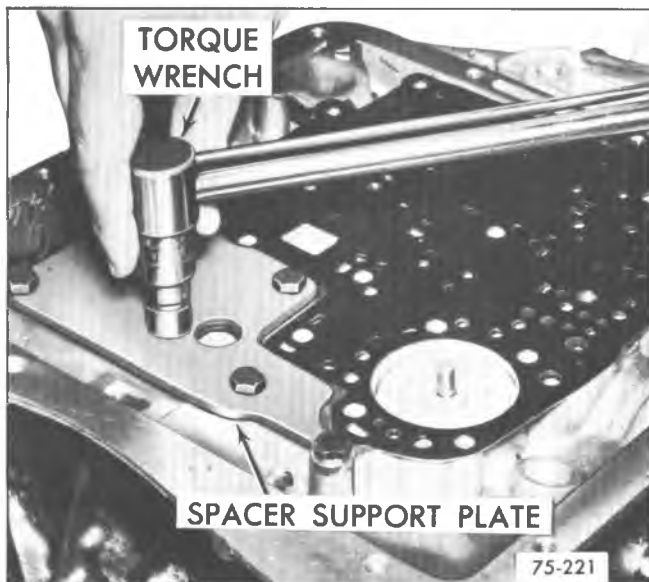

Fig. 13M--Removing Transfer (Spacer) Support Plate
3. Remove transfer plate support bolts. Remove transfer support plate (fig. 13M).